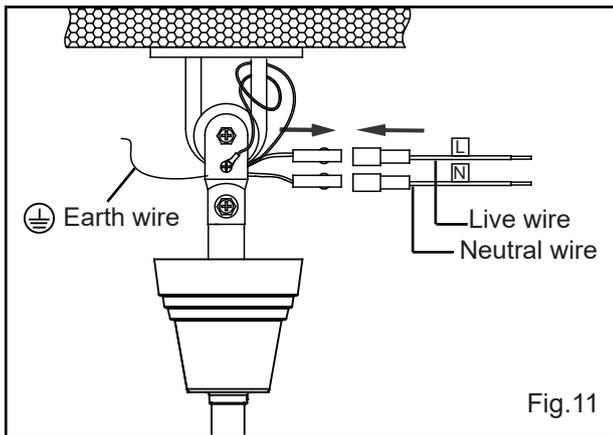

Fig.11
3. Take out the two pieces of lead wires from the screws bag and connect the wire to the fan.(Fig.11)